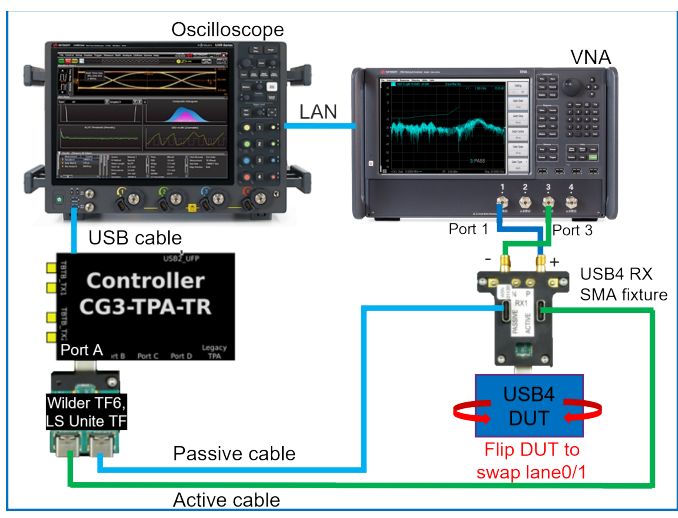

Figure 77 Tx Return loss test setup with Rx SMA test fixture
- 1 For the physical connections between the DUT & the Oscilloscope, see the connection diagrams in Figure 77 and Figure 78.